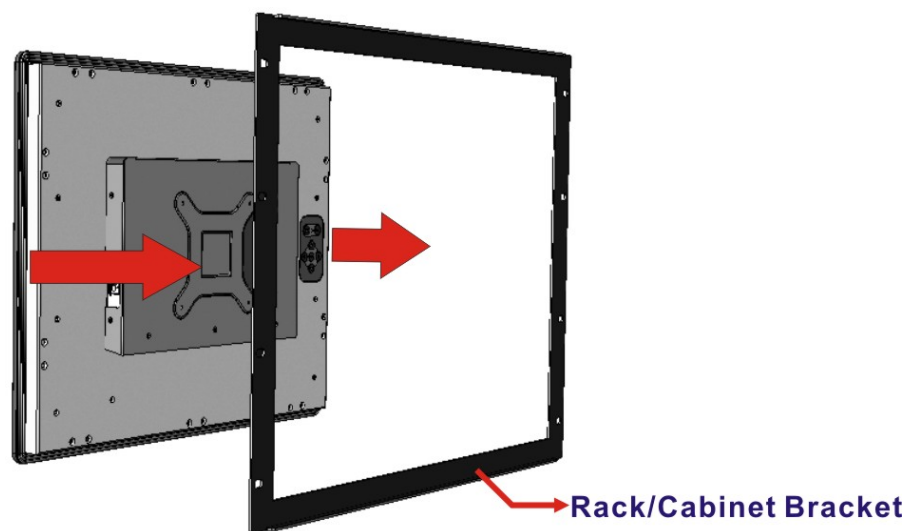

Figure 3-34: Slide DM-F19A into the Rack/Cabinet Bracket
**Step 1:** Slide the rear of the DM-F series LCD monitor through the rack/cabinet bracket until the aluminum frame is flush against the front of the bracket (**Figure 3-34**).